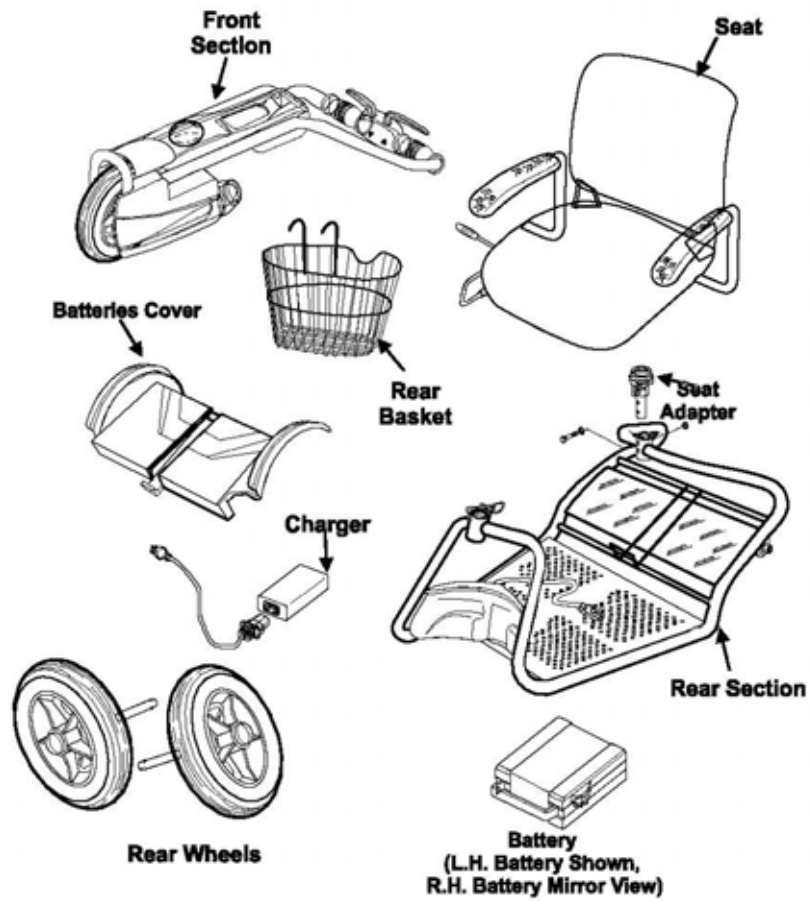

Figure 1.
### **1.1 Unpack as follows (See Fig. 1)**
- e. Identifying the **SUPERLIGHT** Components (**See Fig. 1**)
- (1) Batteries Cover (6) Charger
- (2) Rear Wheels (7) Seat Adapter
- (3) Frame (8) Tiller
- (4) Seat (9) Rear Basket
- (5) Batteries (left & right)